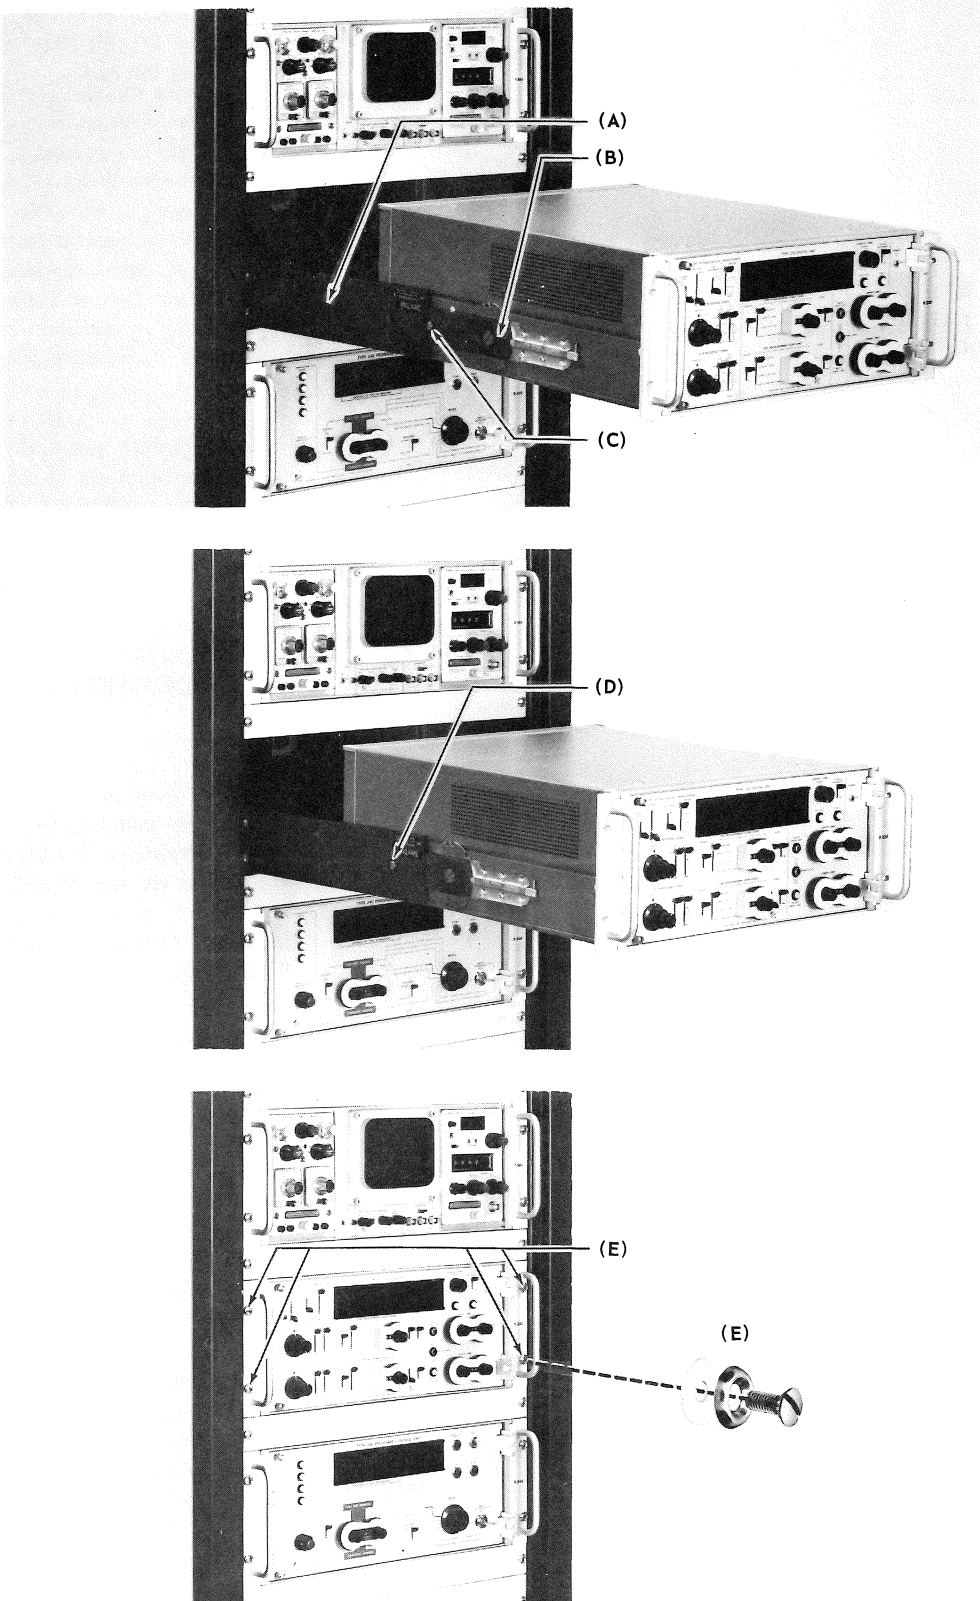

Fig. 2-16. Insertion and removal of rackmount instrument after the slide-out tracks have been installed.
10. Referring to Fig. 2-16, insert the instrument into the rack. Do not connect the power cord or interconnecting cables yet, and do not install the securing screws.
using a finishing washer and a plastic washer with each securing screw as shown in Fig. 2-16. If the front rails are not tapped for the 10-32 securing screws, some other means of securing the instrument to the rack must be provided.
7. Secure the handle brackets of the Type R287 or Type R288 to the front rails of the rack with the four securing screws (see Fig. 2-16).
After the initial installation and adjustment of slide-out tracks, the Type R287 or Type R288 may be removed or re-inserted into the rack by following the instructions given in Fig. 2-16. Under normal circumstances, no further adjustments are required.